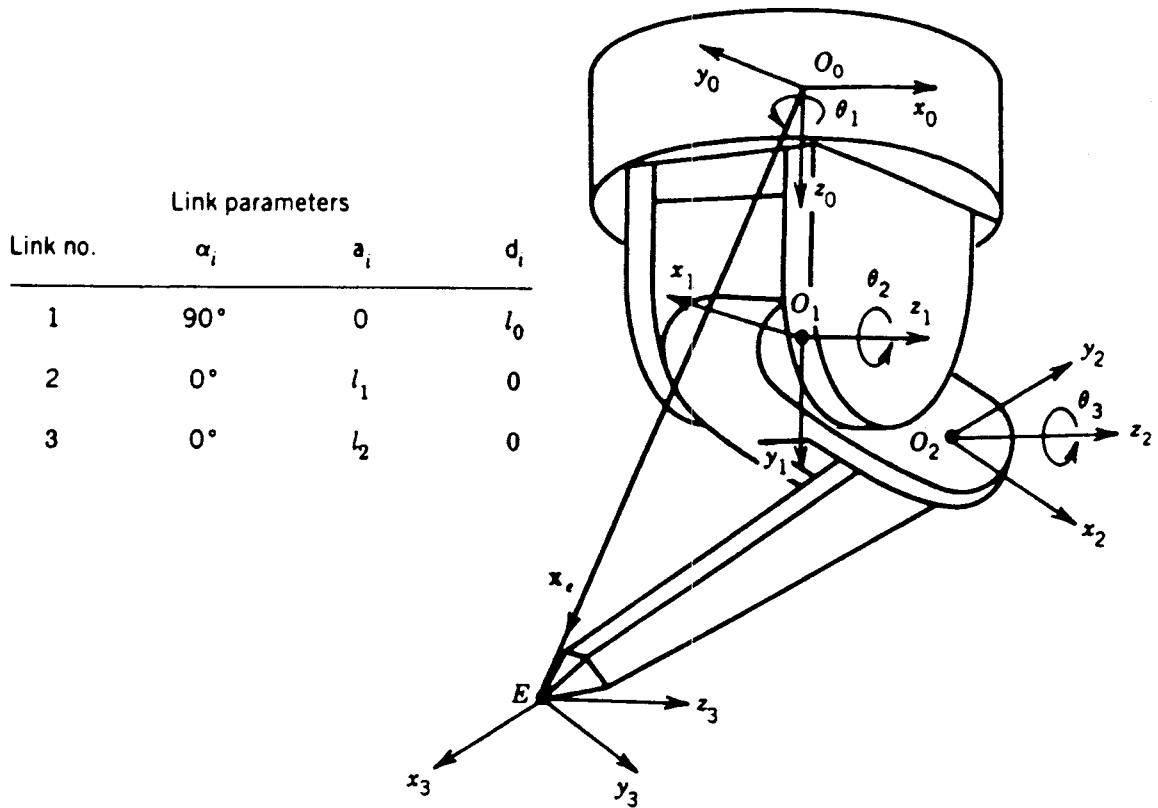

Fig. 3 A three dof manipulator
3. Consider the 3-DOF manipulator shown in Fig 3. The joint servo stiffness is measured at individual joints. They are  $4 \times 10^5$  Nm/rad,  $2 \times 10^5$  Nm/rad and  $1 \times 10^5$  Nm/rad for joints 1,2 and 3 respectively. The link lengths of links 1,2 and 3 are 1m,1m and 1.5m respectively. Compute the end-point compliance for the given configuration, where  $\theta_1 = \pi/2$ ,  $\theta_2 = 3\pi/4$ ,  $\theta_3 = -\pi/2$ . Also, for the given configurations find the maximum and the minimum compliance.